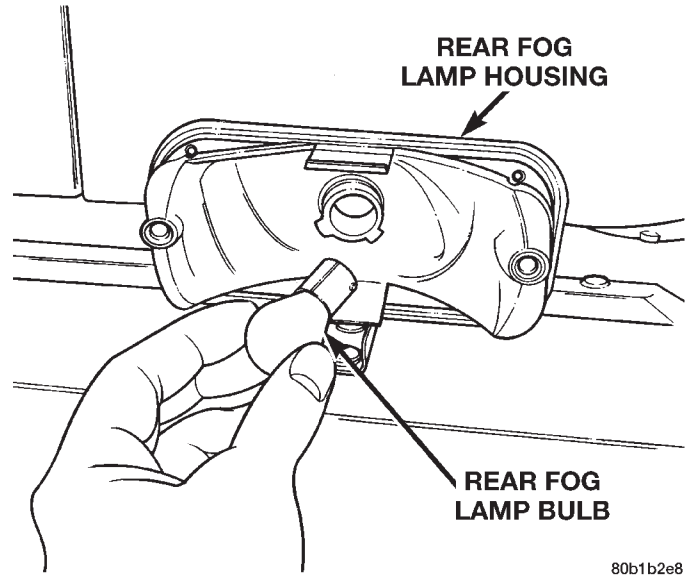

Fig. 11 REAR FOG LAMP BULB
- (2) Remove the bulb from the fog lamp socket (Fig. 11).